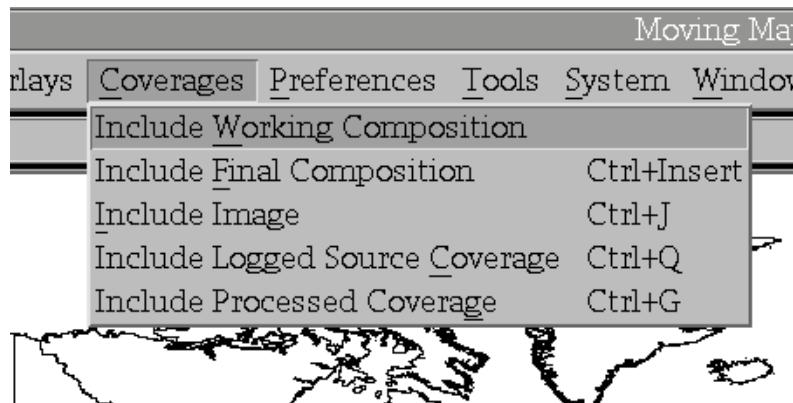

Fig. 21 – Covariances menu
- b. However, the composition may be included as part of another composition. This will allow the user to access the composition **LESSON4**, insert additional coverage, and then save a new final composition. From the main menu, click on *Coverages*, then *Include Final Composition* (Fig. 21), and then select the AOD composition **LESSON4**. Warning messages that are similar to those in Lesson 7, step 3, will be displayed, click *Acknowledge*. The **LESSON4** composition should now be loaded in MMC.